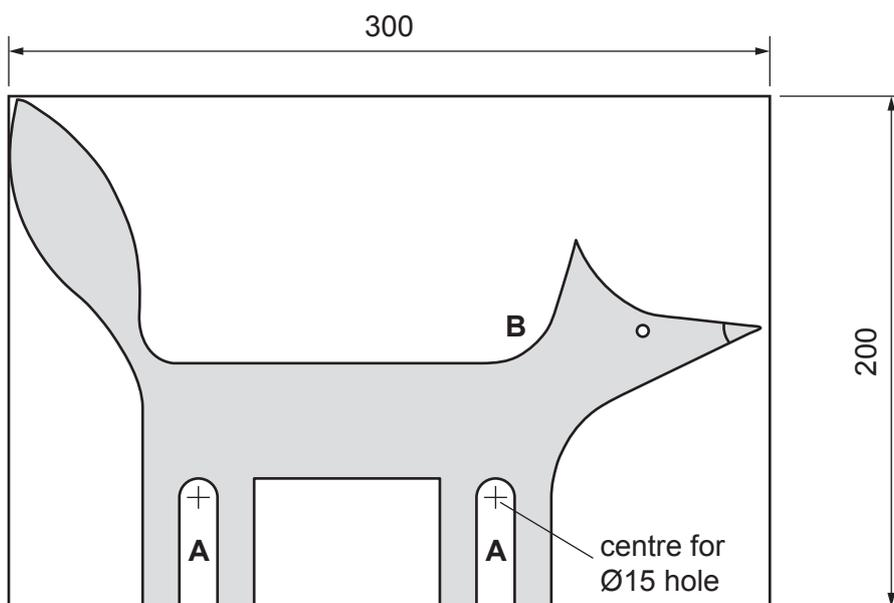

Fig. 12.2
- (a) Fig. 12.2 shows a card template of the coat hook shape glued onto mild steel sheet. The waste between the legs, labelled **A**, will be removed by drilling a hole and then using a saw to cut out the remaining sheet metal.
(v) Name a suitable type of file that could be used to make the curved edge shown at **B** in Fig. 12.2 smooth.